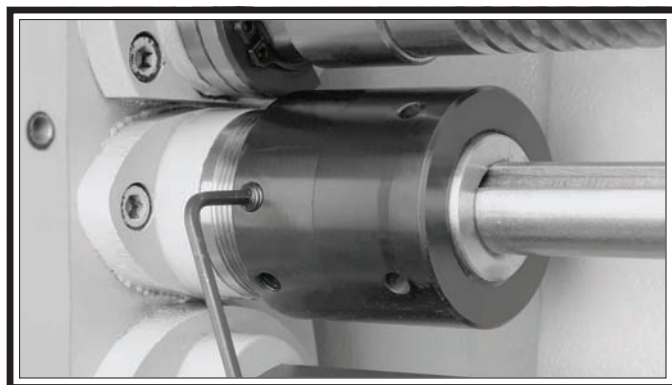

Figure 134. Removing set screw from clutch collar.
3. Remove the clutch collar set screw, as shown in **Figure 134**.